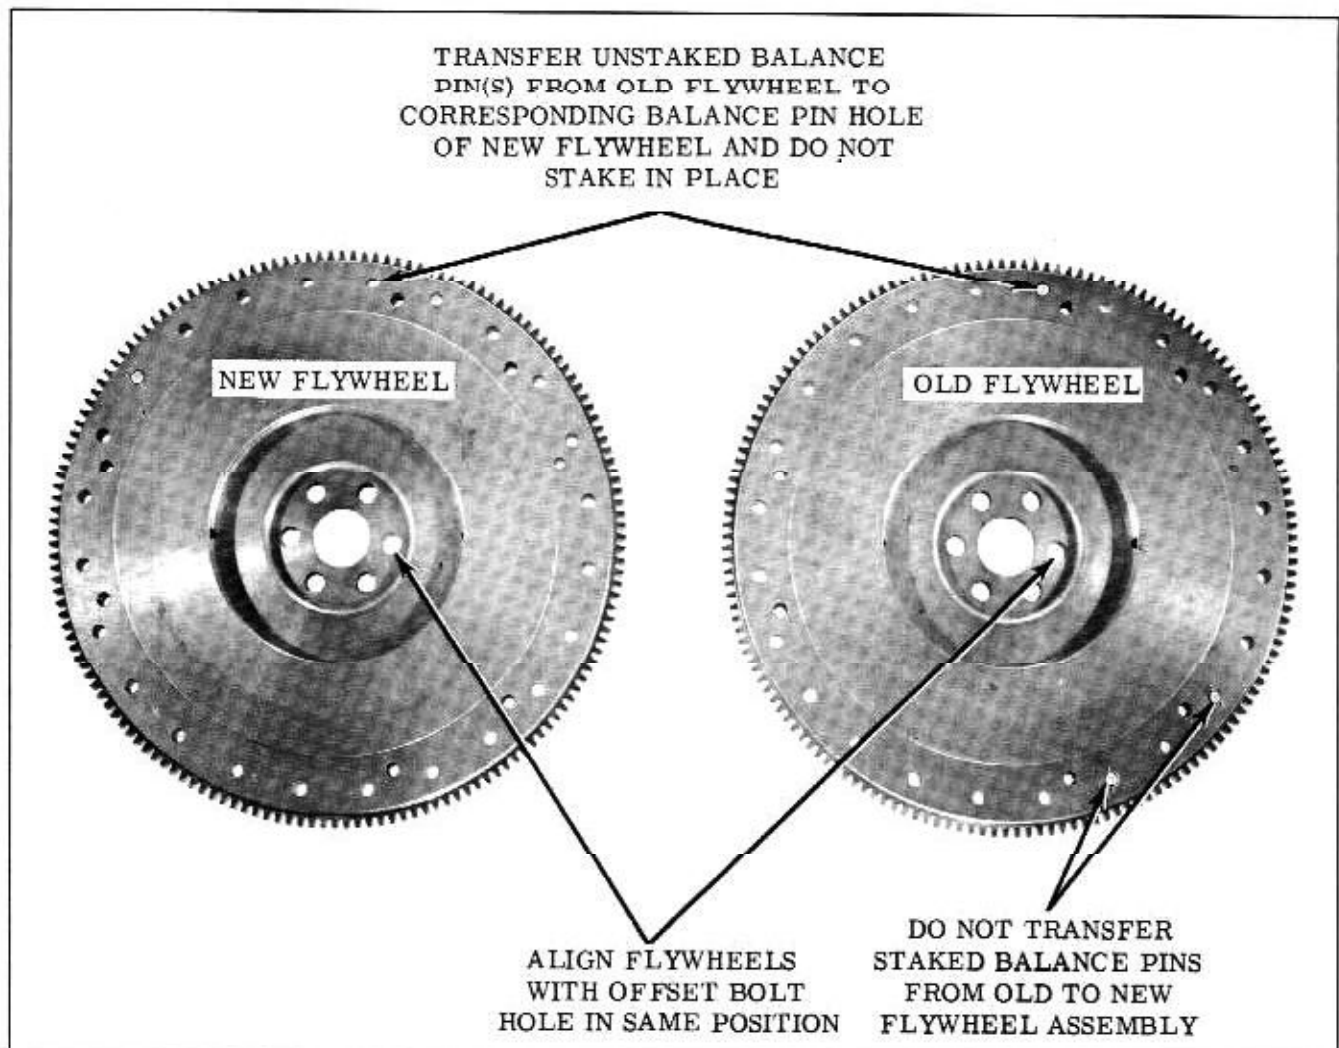

Fig. 8-49 Flywheel Balance Pins
3. Transfer the balancing pins from the original flywheel to the new flywheel in the holes marked. (Fig. 8-49)